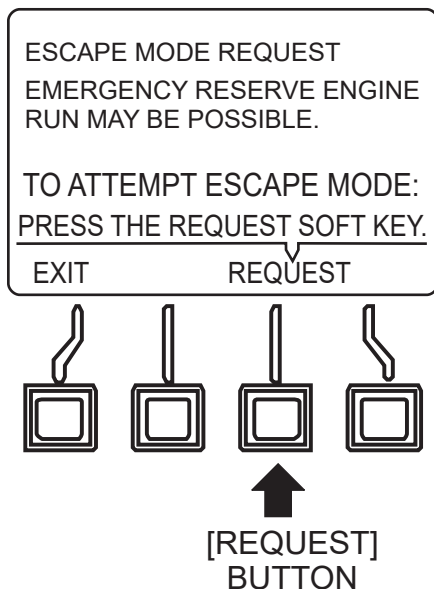

Figure 94. Escape Mode (Request Button)
- Press the **[REQUEST]** button (Figure 94) to send “Escape Mode Request” signal to ECM.